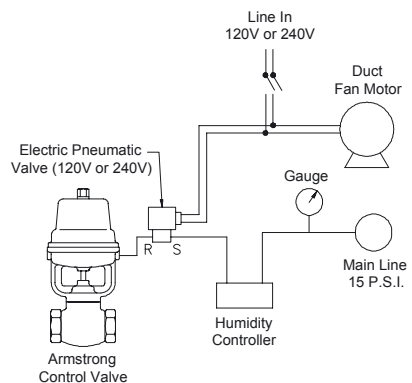

Figure 9-2. Compressed air hook-up for air operated humidifiers incorporating safety interlock for shut down in the event of power failure to fan.
**Interlocks for Shutdowns.** Humidifiers should be interlocked with fans for shutdown on power failure or other system trouble. Interlock should be such that control valve will bleed its control air to atmosphere on a system shutdown rather than be locked in its position at time of shutdown. See Figure 9-2.